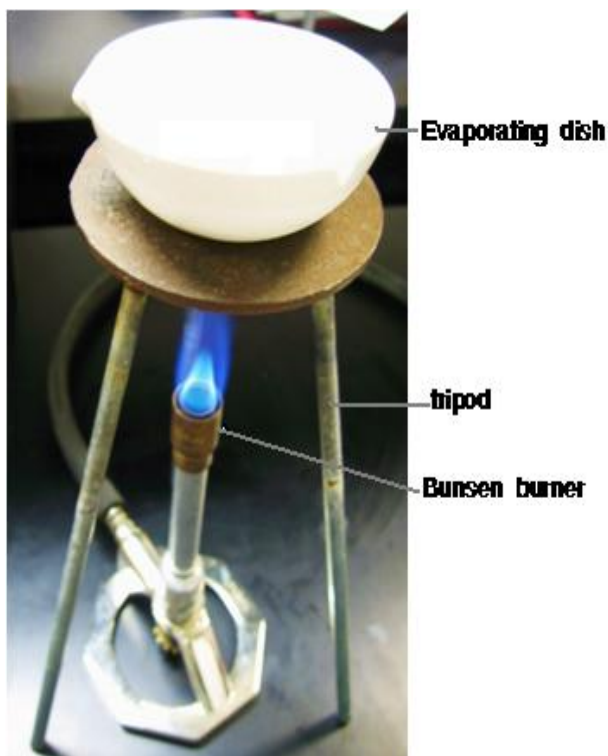

Figure 5: Melting sulphur
2. Heat the test tube gently until all the sulphur melts as shown in figure 5